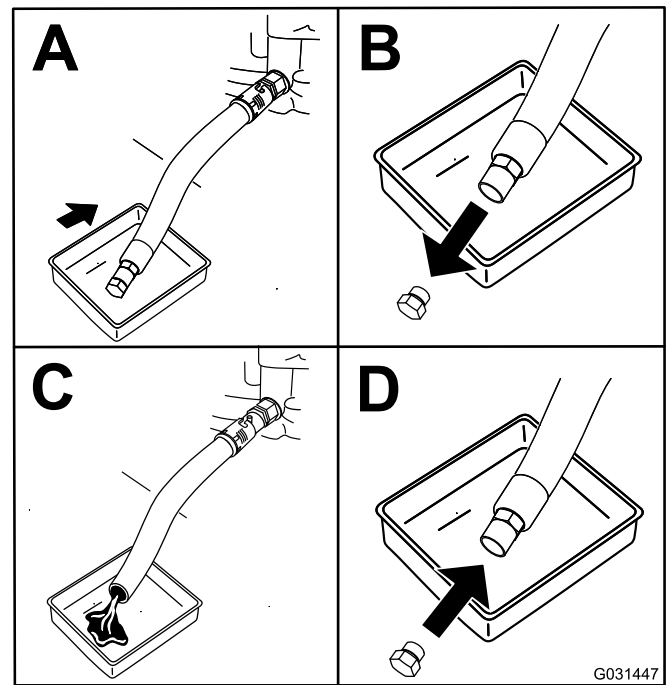

Figure 41
- Change the engine oil as shown in Figure 41.